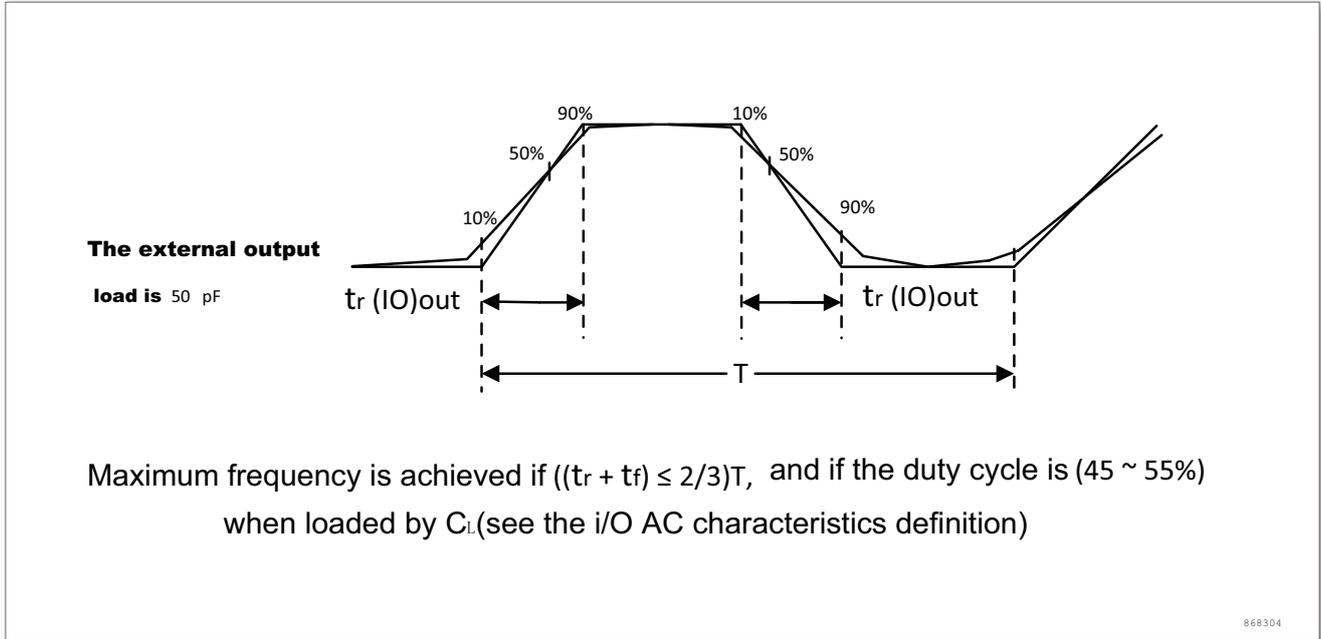

Figure 14. I/O AC characteristics
The definitions and values of the input and output AC characteristics are given in figure 14 and Table 30, respectively.
2. The maximum frequency is defined in figure 14.